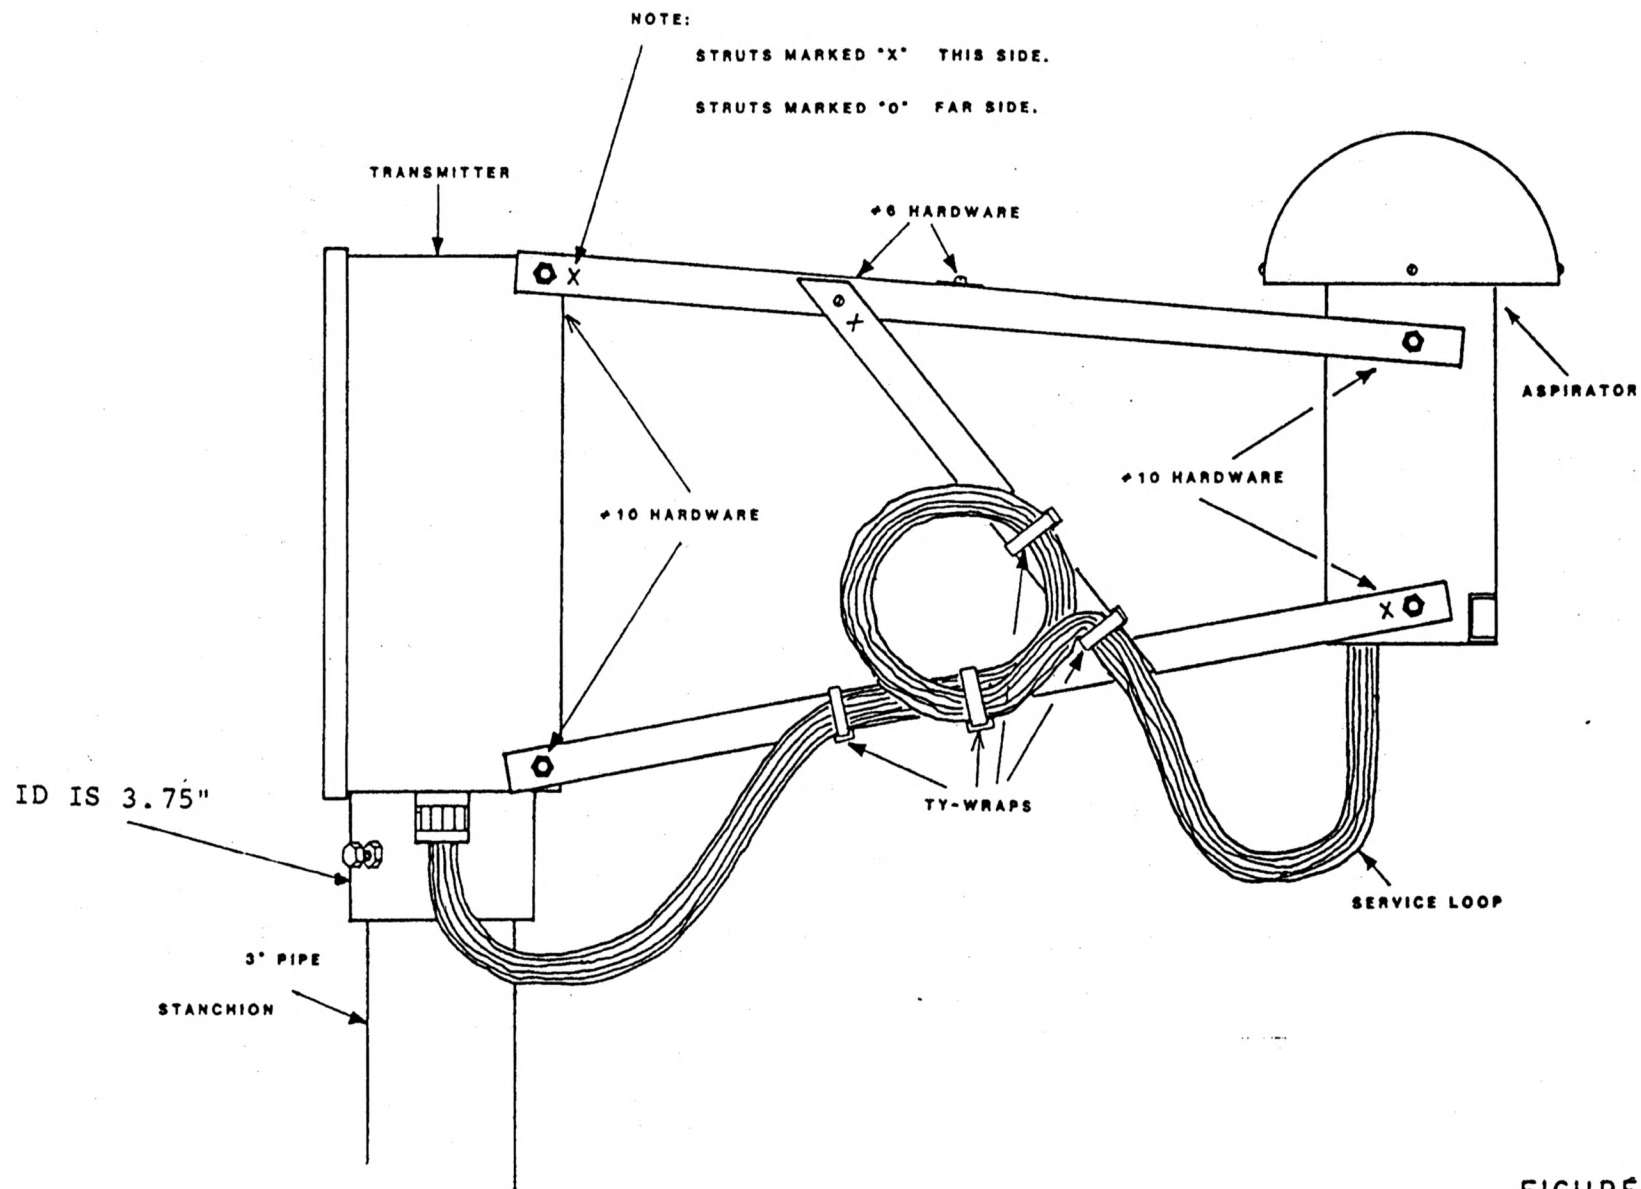
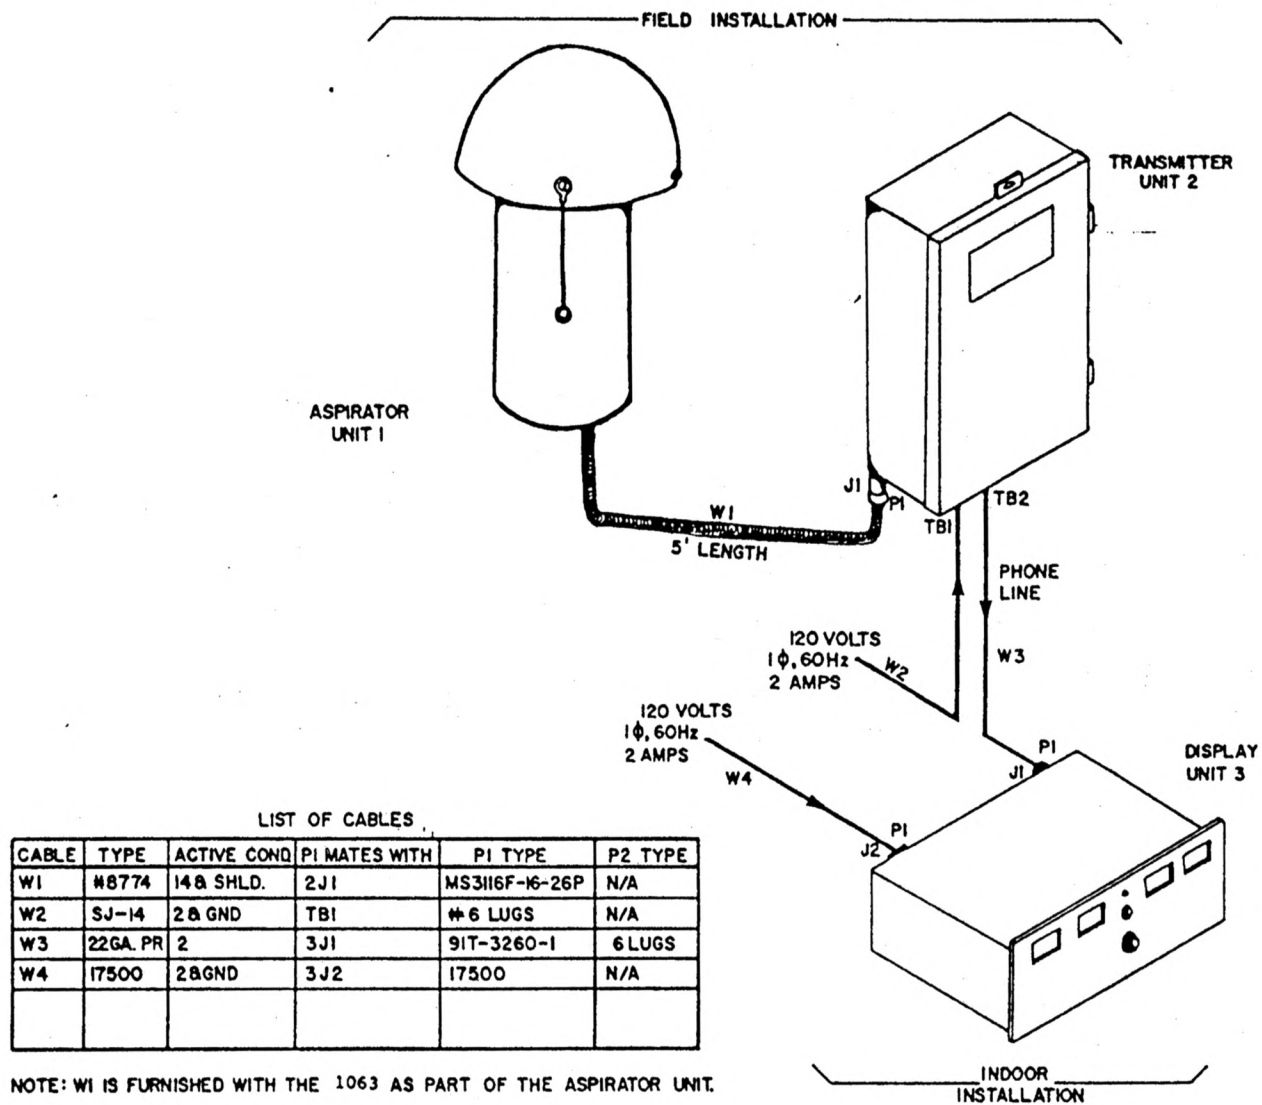

FIGURE 5-1
FIGURE 5-2
- b. Mounting Plan (Figure 5-1)
- c. Interconnecting wiring & cabling diagram (Figure 5-2)
The Aspirator Unit is mounted approximately 5' above ground in any location that can provide unobstructed air flow through the sensor assembly. The ideal location is as far removed from standing water and vegetation as is possible due to their effect on the dew point temperature. It is assumed that the 1063 will be installed at existing station sites, which already have a concrete pad and standpipe (mounting pipe). The 1063 may be mounted at sites with threaded or unthreaded standpipes. The Aspirator Unit is physically attached to the Transmitter Unit by struts as shown in Figure 5-1 and electrically connected by a 5' cable. The cable has been pre-wired with a quick-disconnect plug. The Transmitter is equipped with a flange for mounting to the standpipe.
The Aspirator is supported by angle struts as shown by the Mounting Plan, Figure 5-1. The Aspirator is attached to the Transmitter prior to mounting on the standpipe.
Mount the Transmitter Unit as shown by Figure 5-1. Make AC power and communication line connections through the mounting pipe at the bottom of the enclosure before tightening flange screws. Figure 5-2 indicates all necessary electrical connections. Connect the Aspirator Unit cable to receptacle J1.
- a. That all units of the system are installed correctly and that all cabling interconnections conform to Fig. 5-2.